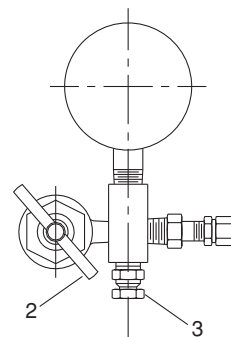

Figure 4
- (A) Remove protective cover (A) and the secondary seal (B) from the Diaphragm accumulator. Check torque on the gas valve to be 9 ft-lbs (10.3 cm kg).
- (B) Refer to Figure 4. Back gas chuck “T” handle (2) all the way out (counterclockwise), attach charging and gauging head assembly by screwing the air chuck (2) to the valve stem of the Diaphragm accumulator and tighten (10-15 in lbs) (11.5-17 cm kg).
- (C) Close bleed valve (3).
- (D) Turn “T” handle (2) in clockwise motion.
- (E) When finished checking the precharge, turn “T” handle (2) counterclockwise all the way, then open bleed valve (3).
- (F) Using a wrench to prevent the gas valve assembly from rotating, remove the charging assembly from the accumulator.
- (G) Replace secondary seal (B) and protective cap (A).
For accumulators having gas valve as shown in Figure 6, attach gauging assembly as shown in Figure 4 following Steps A through D. Then, open bleed valve (3) until all gas pre-charge is relieved from accumulator. Then remove gauging assembly. The accumulator is now safe to remove from the system.